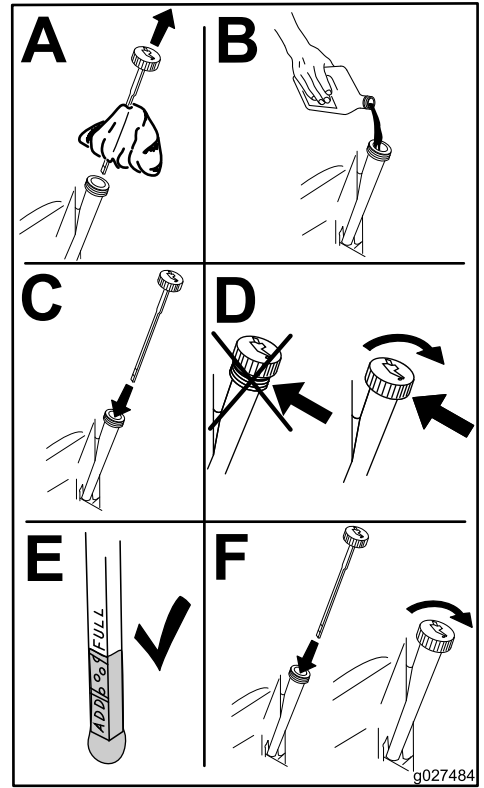

Figure 32
- Slowly pour approximately 80% of the specified amount of oil into the fill hole (Figure 32).
- Check the oil level; refer to Figure 32.